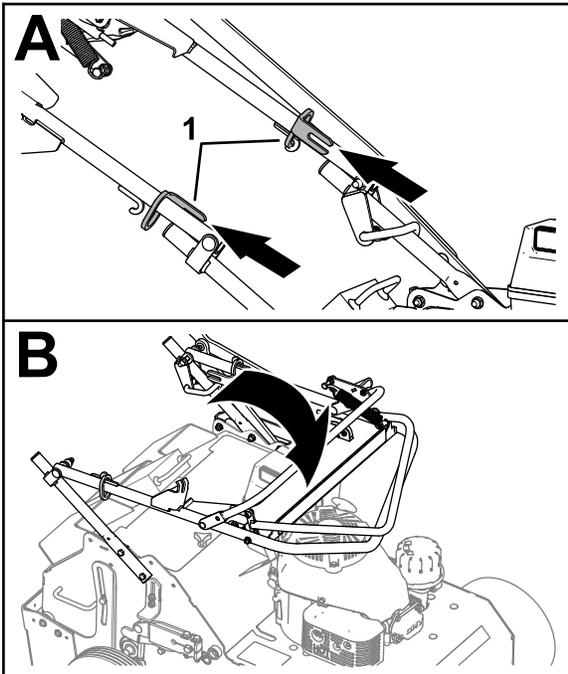

Figure 21
1. Move the 2 handle-lock rings rearward (Figure 21).